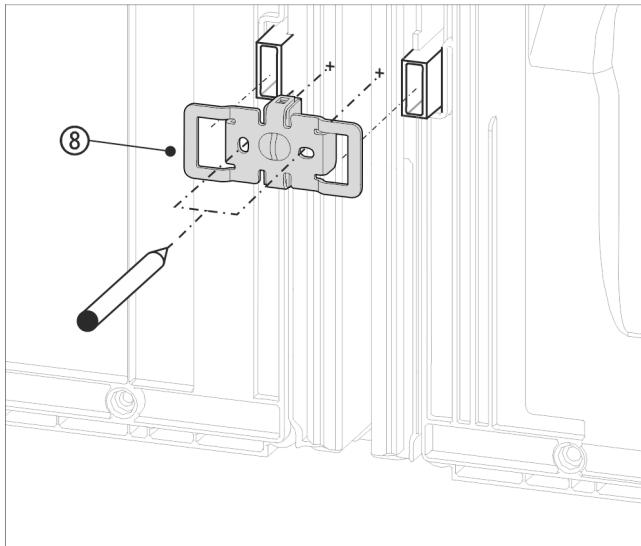

Fig. 16 Example illustration
- ▶ Slide the bracket Fig. 16 (8) on with the slots over the retainer for the wall spacers.